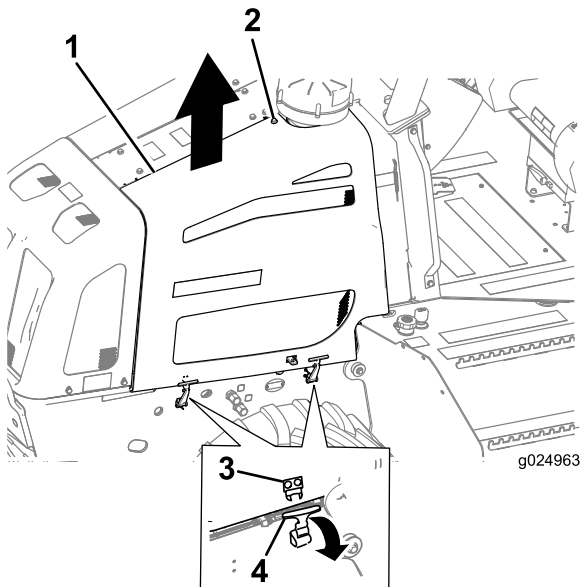

Figure 4
- Remove the side panels (Figure 4), refer to the *Operator's Manual*.